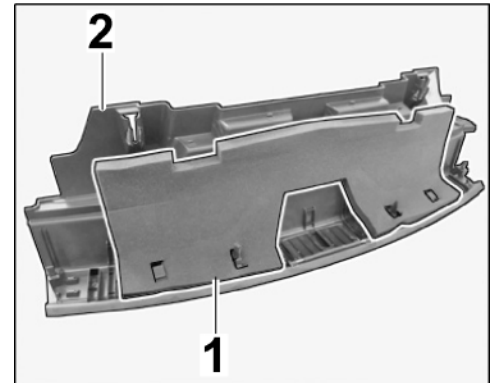

Figure 25
- 4.1.1 Remove insulating material from the lock carrier cover. ⇒ *Figure 25*